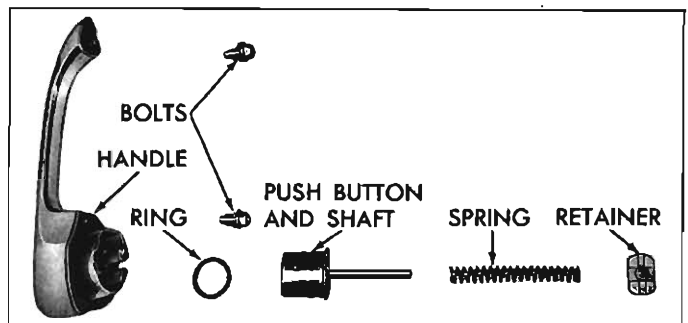

Fig. 7—Door Outside Handle
- Raise door window, remove door trim assembly and detach upper rear corner of inner panel water deflector sufficiently to gain access to door outside handle attaching bolts (fig. 7).